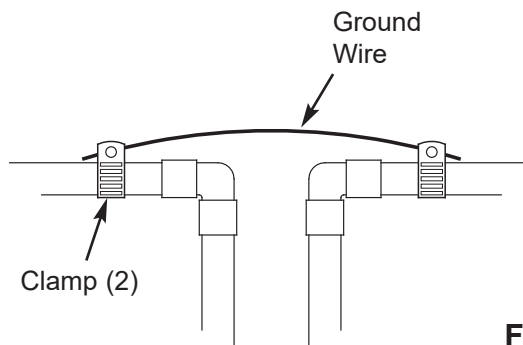

FIG. 7
- a. Install a #4 copper wire across the removed section of main water pipe, securely clamping at both ends (See Figure 7). Parts not included.